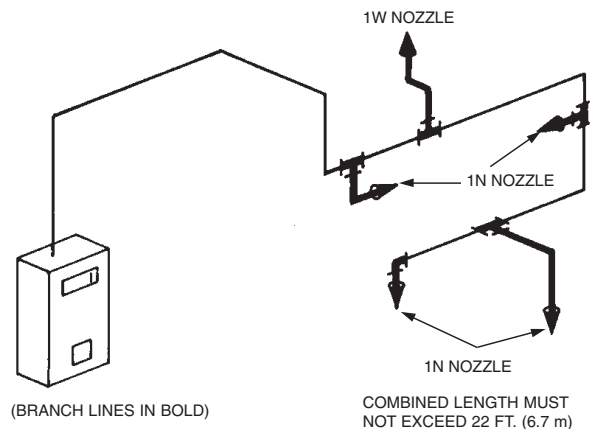

FIGURE 92
- ▶ 6. The combined length of all branch lines must not exceed 22 ft. (6.7 m). See Figure 92.